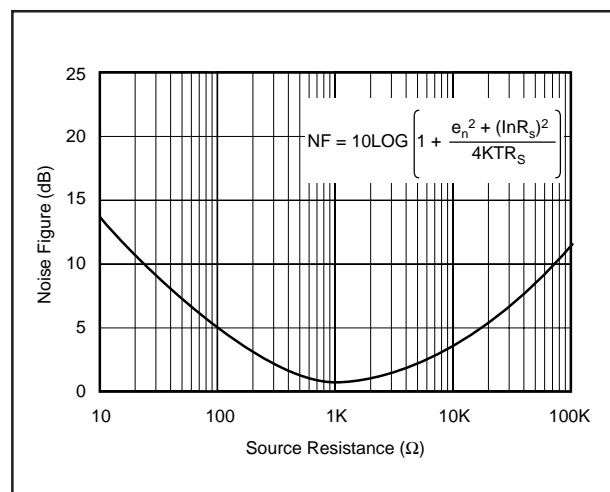

FIGURE 8. Noise Figure vs Source Resistance.
The OPA644's voltage and current noise spectral densities are specified in the Typical Performance Curves. For RF applications, however, Noise Figure (NF) is often the preferred noise specification since it allows system noise performance to be more easily calculated. The OPA644's Noise Figure vs Source Resistance is shown in Figure 8.